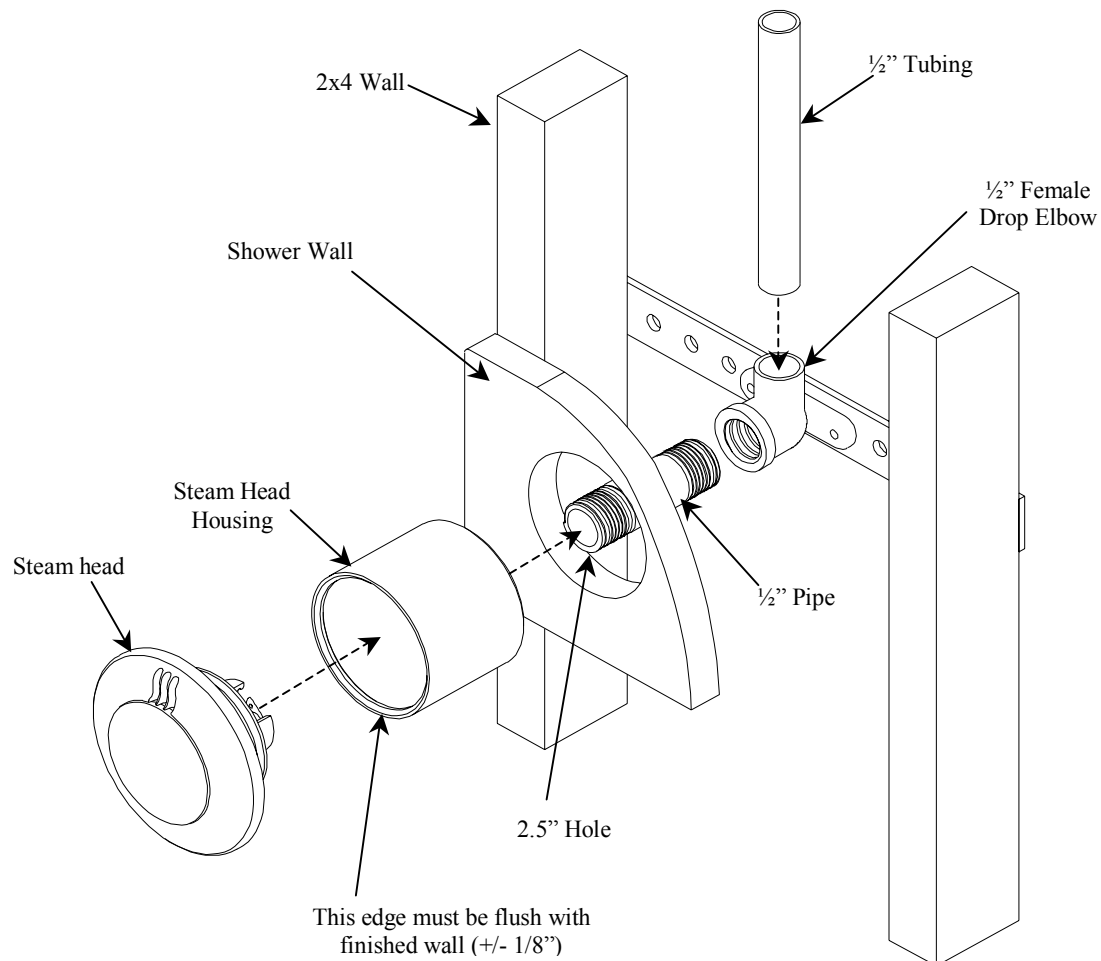

Figure 5
2. Connect a 1/2" NPT brass pipe or tubing to the steam outlet on the generator run the pipe to the 2.5" hole in wall to connect with the steam head housing, use figure 5 as a guide. **It is very important that the pipe is firmly secured to the wall, so that when the steam head is installed it doesn't push the housing back into the wall.** The steam line can run up, down, or horizontal; **but cannot run down and then up.** If it does, a steam trap may be produced at the low point blocking the flow of steam. Install a 1/2" drop elbow on the end of the 1/2" pipe for the steam head housing. For all the connections, use Teflon tape/solder and do not over tighten fittings. **DO NOT USE PVC CEMENT.**